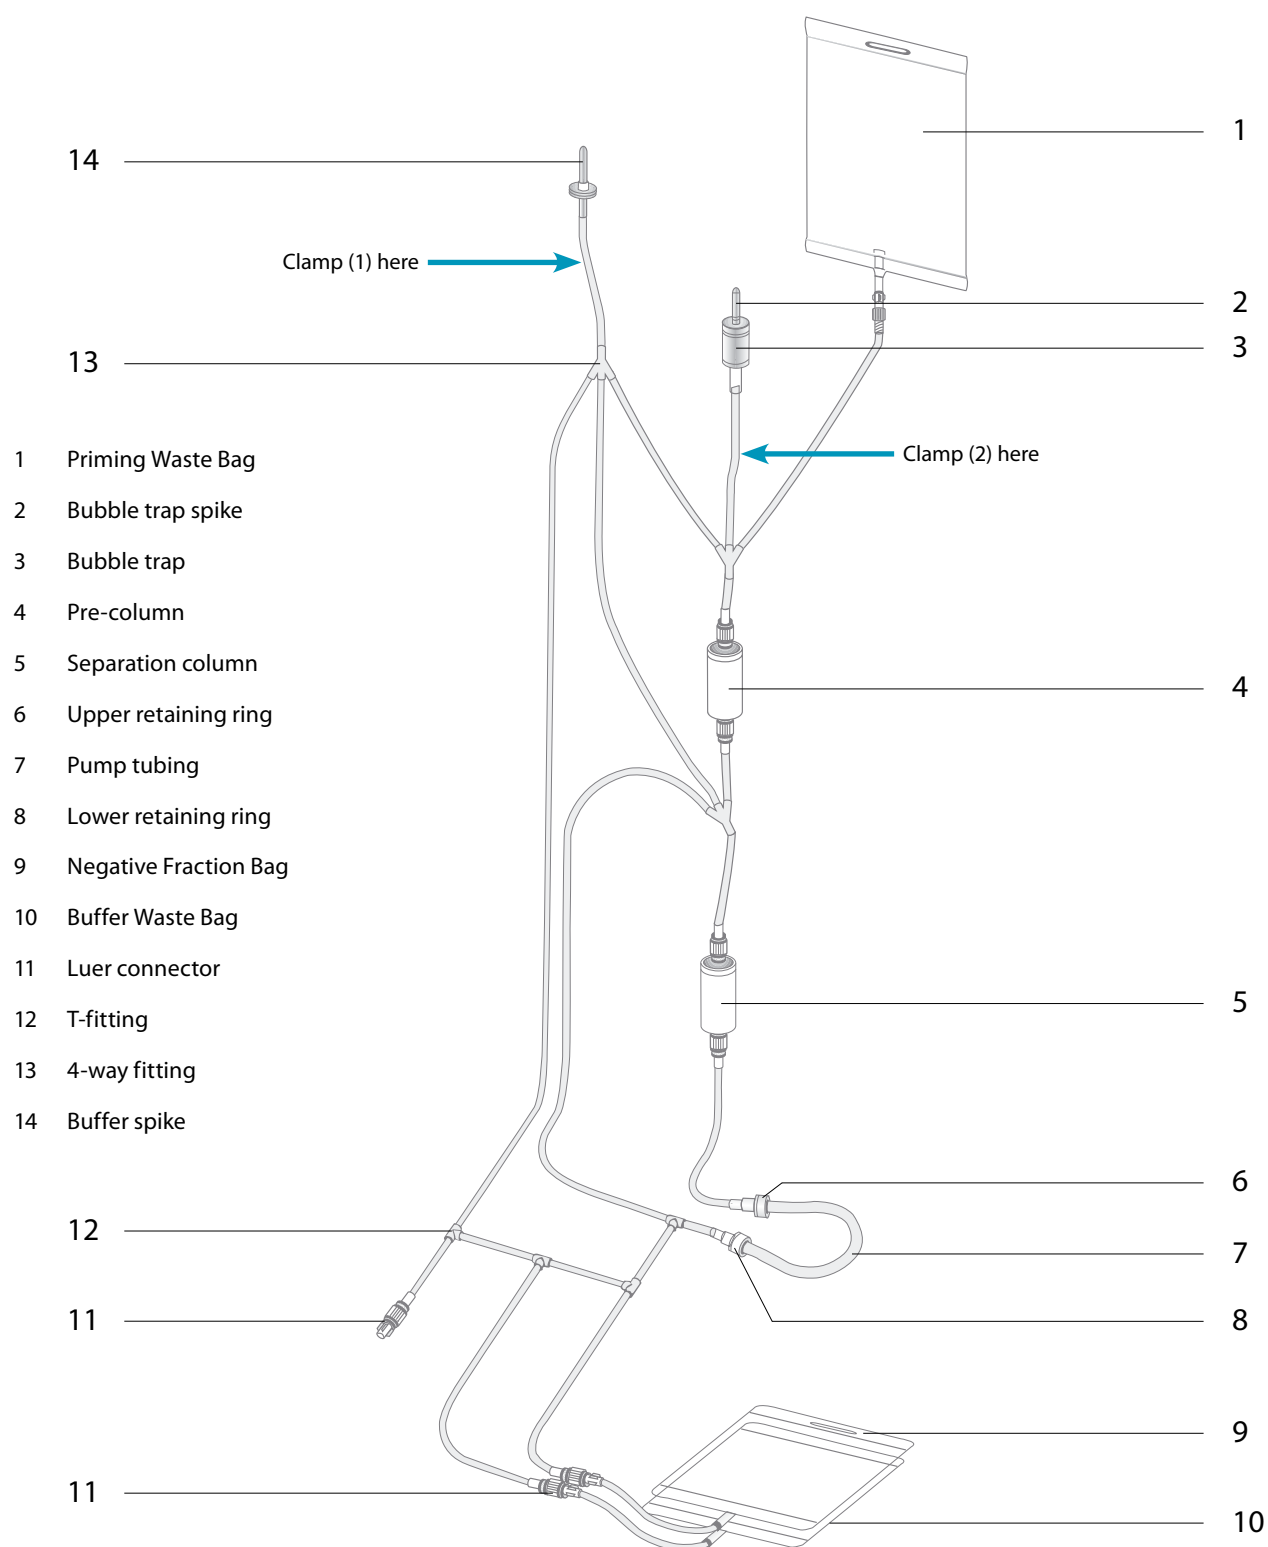

Figure 57: General construction of a CliniMACS® Tubing Set for Research Use (e.g., CliniMACS Tubing Set for Research Use, # 165-01).
Clamp the tubing just below the buffer spike with a clamp in order to prevent the buffer from flowing into the tubing set during its installation (see (1), fig. 57). Using aseptic techniques remove the cap from the buffer spike on the tubing set and connect it to the buffer bag. Ensure that the septum is punctured, allowing free flow of liquid. Gently squeeze the bag to ascertain that the spike has penetrated the bag.
Remove the cap from the spike of the bubble trap. Remove the cap from the lower opening of the pre-system filter.** Firmly insert the spike into the pre-system filter. DO NOT remove the top cap of the pre-system filter. Close the tubing just below the bubble spike using a clamp (see (2), fig. 57). This prevents the prepared cell suspension in the Cell Preparation Bag from entering the pre-system filter.